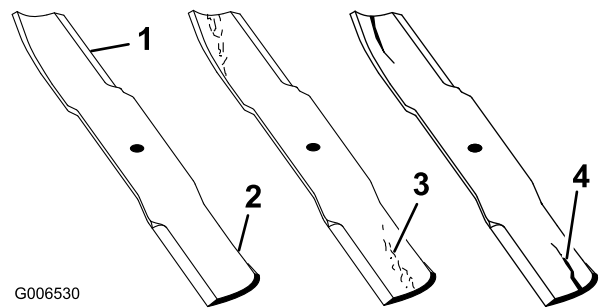

Figure 56
1. Inspect the cutting edges (Figure 56). If the edges are not sharp or have nicks, remove and sharpen the blades. Refer to Sharpening the Blades.
2. Inspect the blades, especially the curved area (Figure 56). If you notice any damage, wear, or a slot forming in this area (Figure 56), immediately install a new blade.